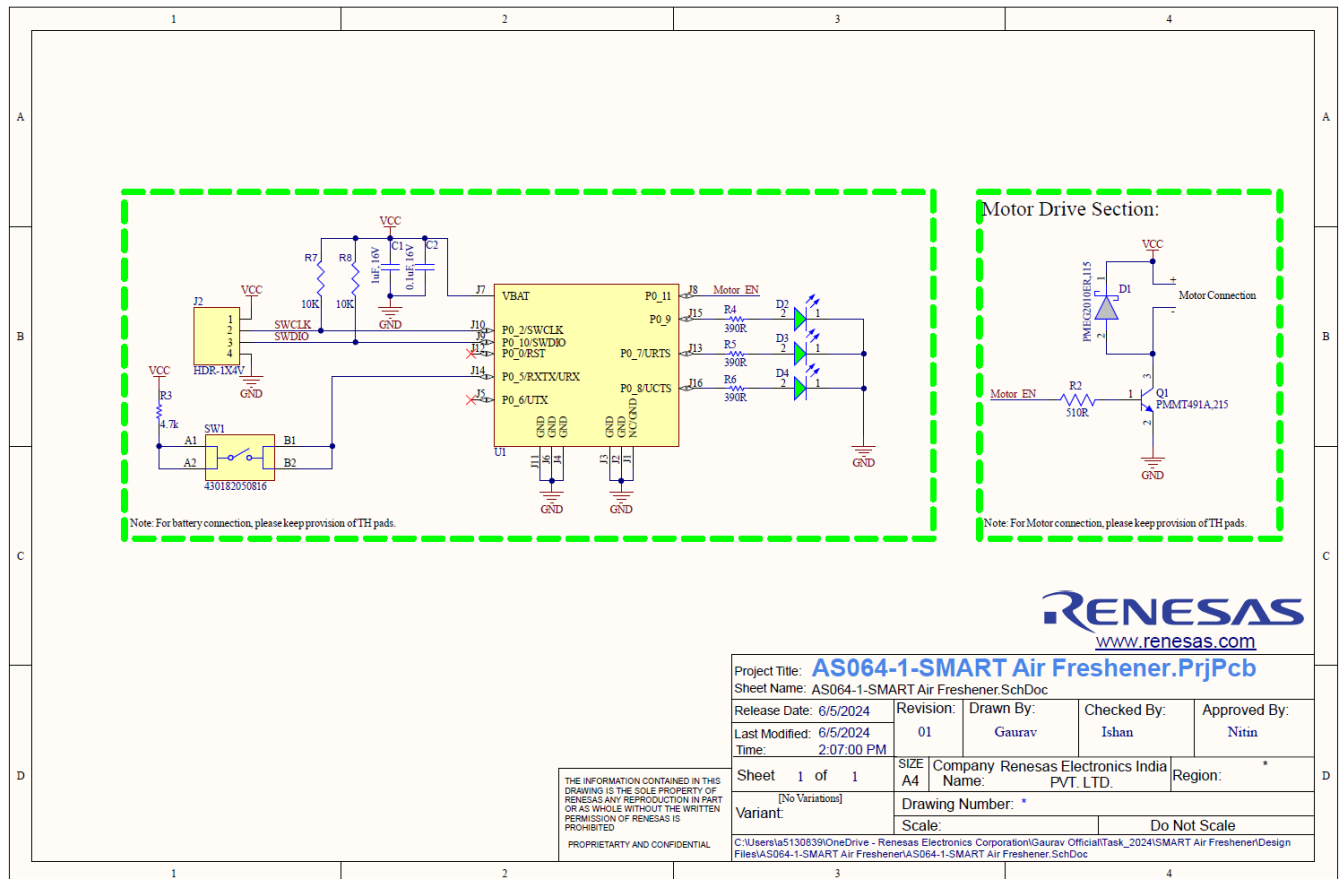

Figure 5. AS064-1-SMRTAFR_REFZ Board Schematic
- Figure 5. AS064-1-SMRTAFR_REFZ Board Schematic 5